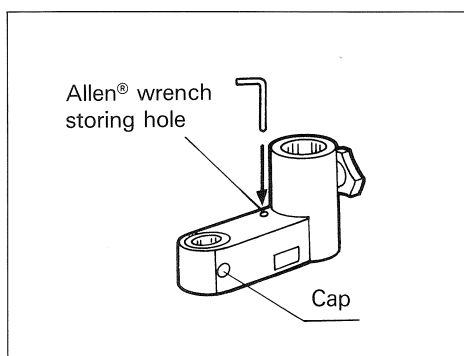

Fig. 6
- ★ With the SZ-STL-1, the Allen® wrench may be stored in the hole provided on the SZ-STLA large-size microscope stand arm. (Fig. 6)
- ★ With the SZ-STL-1, after mounting the bonder arm securely onto the large-size microscope stand arm, attach the protective caps to the clamping screws to prevent tampering. (Fig. 6)